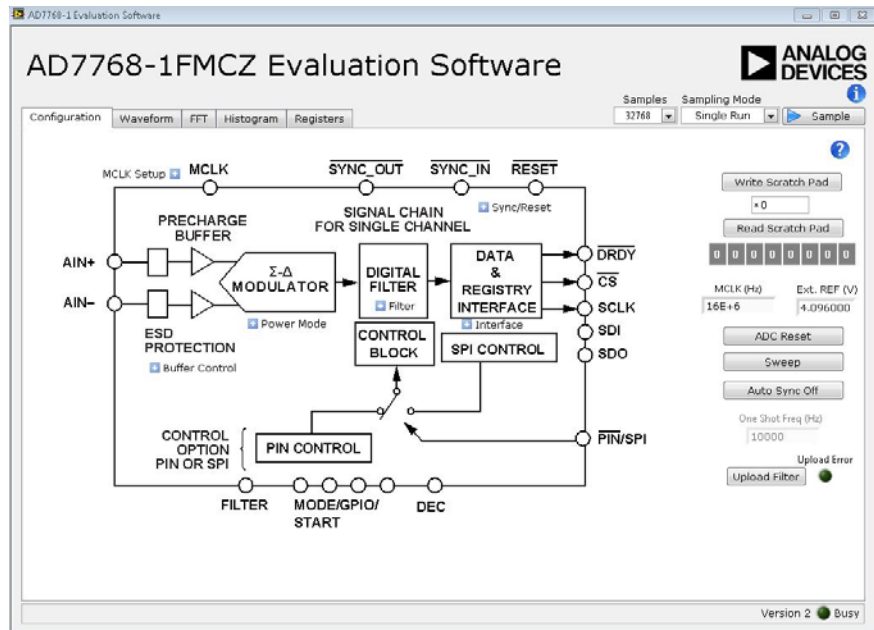

Figure 17. Configuration Tab
The **Configuration** tab is the tab displayed by default when the software first opens (see Figure 17). An overview of the AD7768-1 block diagram is shown, along with buttons that open pop up menus for quick configuration of the device.
5. Set the MCLK frequency on the **Configuration** tab (see Figure 17). The output data rate (ODR) is set using a combination of the AD7768-1 MCLK and decimation rate. In $\overline{\text{PIN}}$ control mode, the registers are not used to configure the part. The register map settings of the EV-AD7768-1FMCZ software are no longer automatically updated to reflect the settings of the device.